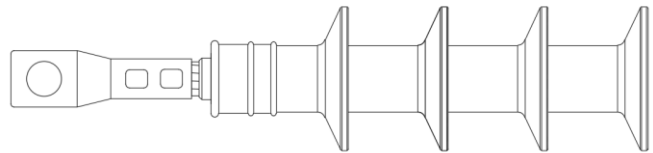

Fig.6
- Install the crimp terminal with specialized crimping pliers, and Install the shear bolt terminal as per the installation manual of the terminal. (Fig.6)